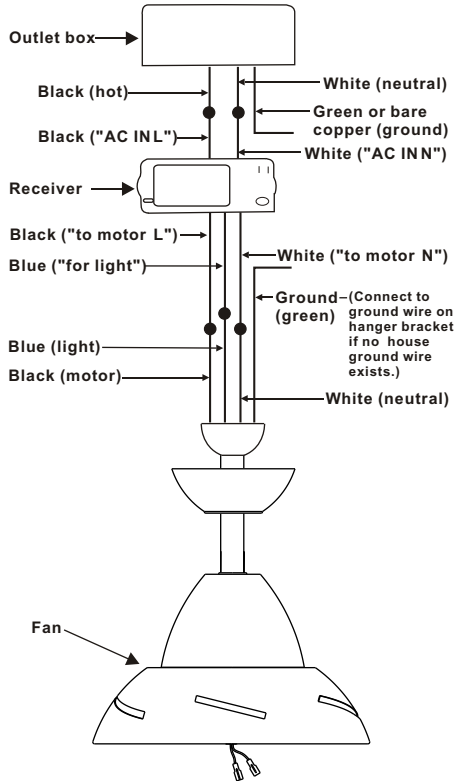

Figure 10
Step 2. (Fig. 10) Motor to Receiver Electrical Connections: Connect the Black wire from the fan to Black wire marked "TO MOTOR L". Connect the White wire from the fan to the White wire marked "TO MOTOR N" from the receiver. Connect the Blue wire from the fan to the Blue wire marked "For Light" from the receiver. Secure wire connections with the plastic wire nuts provided.
Step 3. (Figure 10) Receiver to House Supply Wires Electrical Connections: Connect the black (hot) wire from the ceiling to the black wire marked "AC in L" from the receiver. Connect the white (neutral) wire from the ceiling to the white wire marked "AC in N" from the Receiver. Secure the wire connections with the plastic wire nuts provided.
Step 4. (Figure 10) If your outlet box has a ground wire (green or bare copper) connect it to the fan ground wires; otherwise connect the hanging bracket ground wire to the mounting bracket. Secure the wire connection with a plastic nut provided. After connecting the wires spread them apart so that the green and white wires are on one side of the outlet box and black and blue wires are on the other side. Carefully tuck the wire connections up into the outlet box.